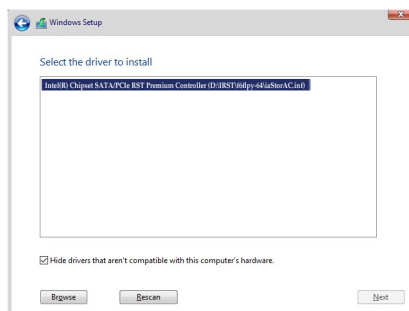

Figure 1
When a screen as shown in Figure 1 appears, select **Intel(R) Chipset SATA/PCIe RST Premium Controller (I\IRST6f1py-x64\iataAC.inf)** and click **Next** to load the driver and continue the OS installation.